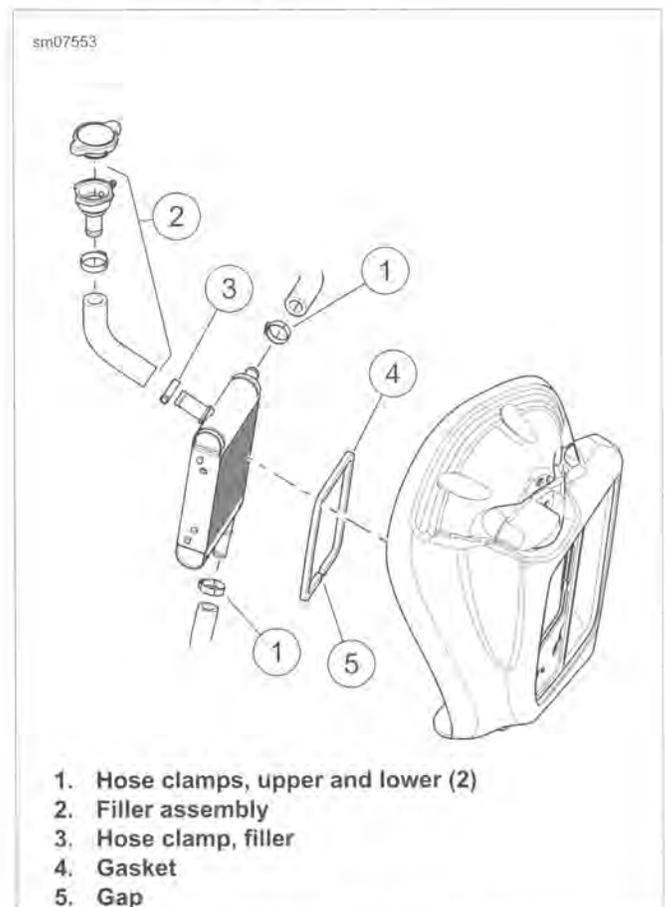

Figure C-9. Radiator
4. See Figure C-9. Remove clamps (1). See C.5 COOLING SYSTEM REPAIR, Crimp Clamps.
6. **Right side:** Remove clamp (3). Remove filler assembly (2).
7. If necessary, remove gasket (4).
1. See Figure C-9. If removed, install **new** gasket (4). Carefully align to bosses and place gap (5) at bottom center.
2. **Right side:** Install filler assembly using new clamp (3).